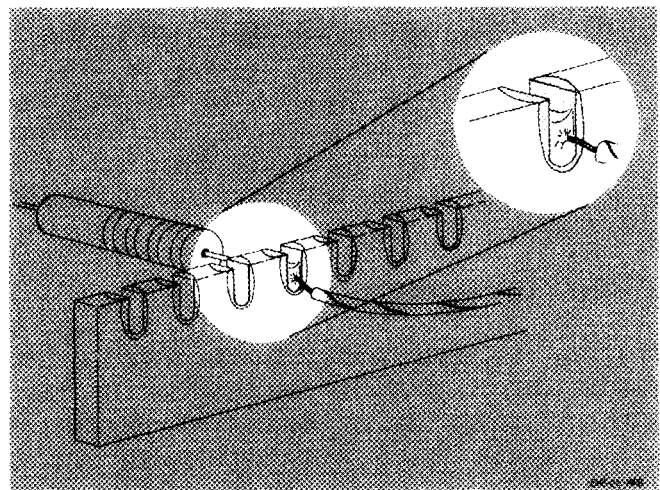

Fig. 4-3. A slight fillet of solder is formed around the wire when heat is applied correctly.
6. Do not attempt to fill the notch on the strip with solder; instead, apply only enough solder to cover the wires adequately, and to form a slight fillet on the wire as shown in Fig. 4-3.